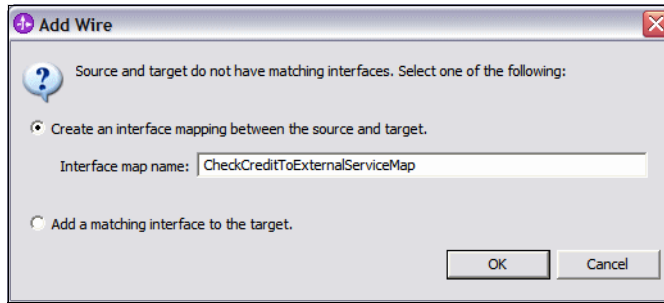

Figure 16-33 Create an interface map
- ▶ In the resulting prompt that the interfaces do not match, specify a name of `CheckCreditToExternalServiceMap` and click `OK` (Figure 16-33).